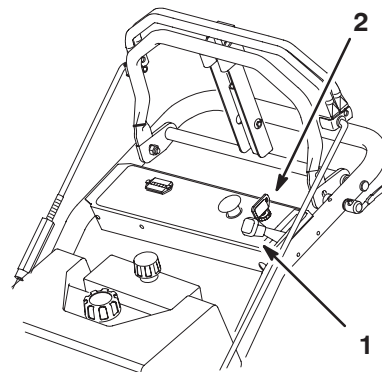

Figure 12
5. Move the throttle lever to the slow position (Fig. 12).
6. Turn the ignition key to off (Fig. 12).